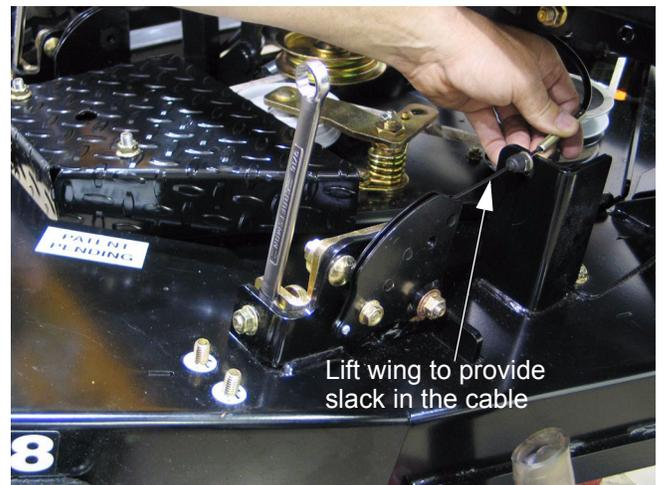

Figure 7.7
- 7.7. With the wings unlatched, they can be lifted manually. Lift the wings manually to put slack in the lift cable so that the end of the cable can be slipped-out of the hole and slot in the bracket. See Figure 7.7.